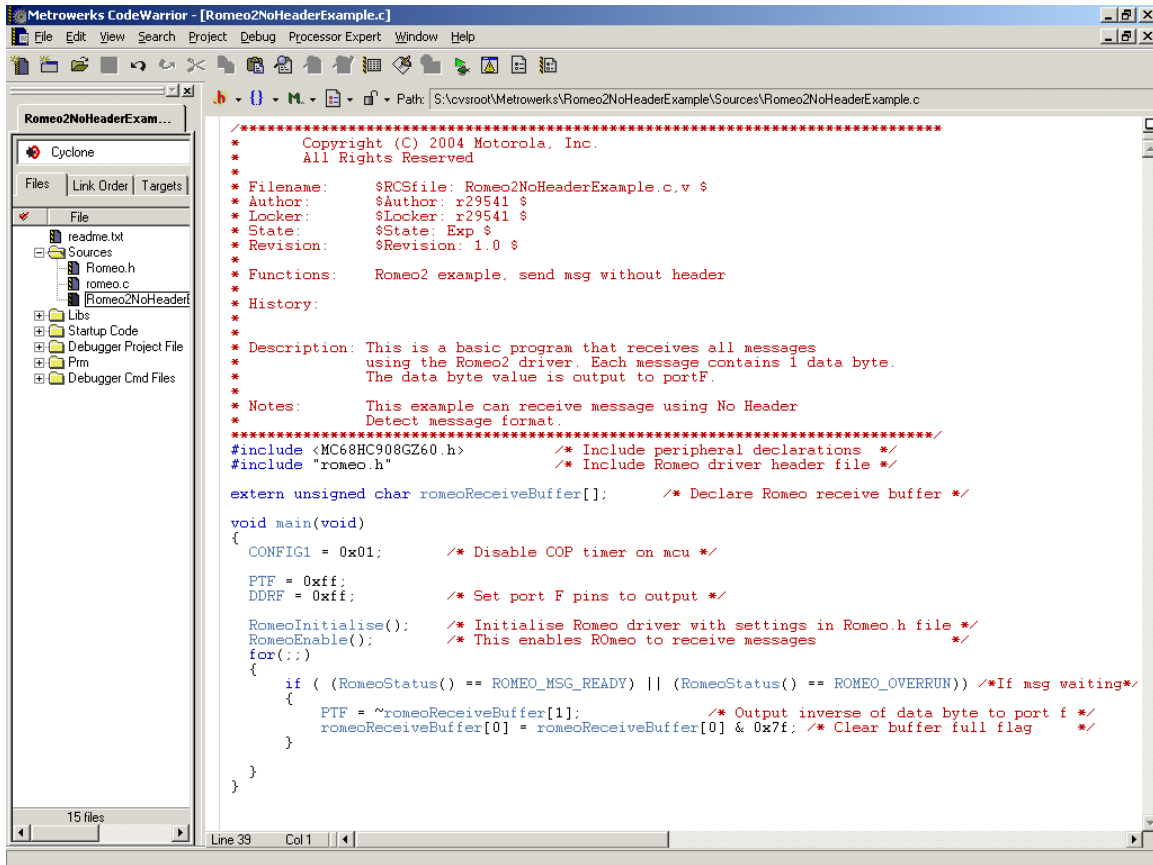

Figure 24. Example Romeo2 Application
**Figure 24** shows a simple example using the Romeo2 driver that receives all messages.